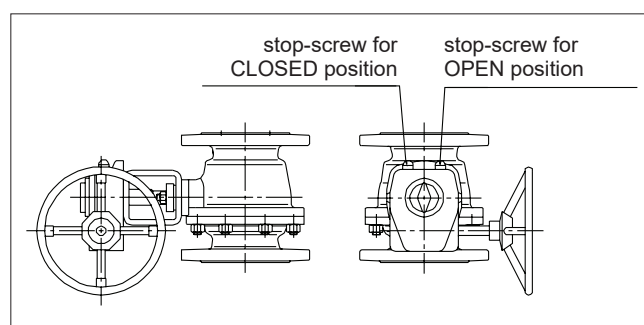

Fig. 17 Open and closed positions of the M actuator
- Adjust the ball open and closed positions with the hexagon screws located at the side of the housing (see Figure 17). The stop-screw for the open position is nearest to the handwheel on the side of the housing and the screw for the closed position is at the opposite end. The turning directions for the handwheel are marked on the wheel.